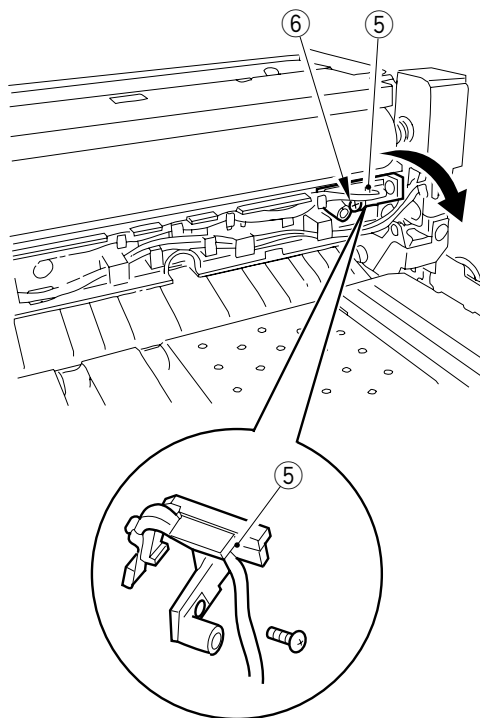

Figure 6-232
It is difficult to replace the sub thermistor on its own in the field. Be sure to replace it on a unit basis (thermistor unit ⑤ in Figure 6-232.)